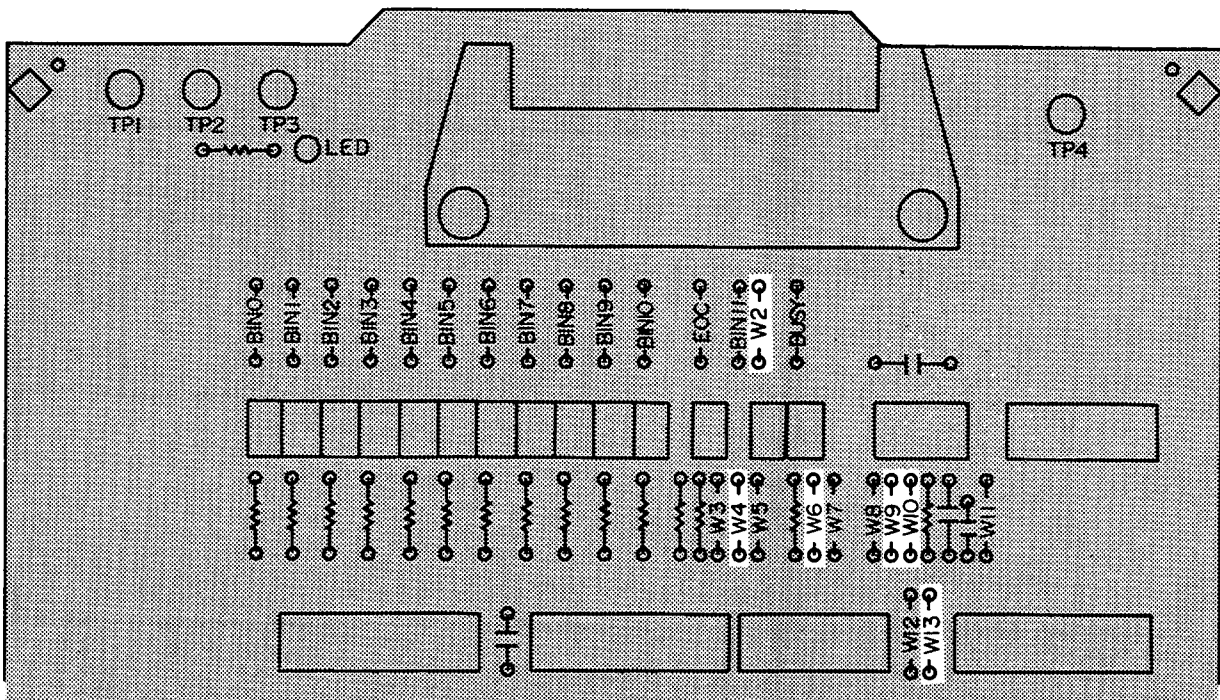

Figure 4-30. RTR2 Jumper and Pull-Up Resistor Locations
1. Configure the following interface signals by installing the jumpers as shown in Figure 4-30.
2. Bring + 5V out through pins 12 and 17 of the handler interface rear panel connector (install a jumper at **W2** for the **COMMON** connection). Refer to Figure 4-30 for the locations of **W2** .